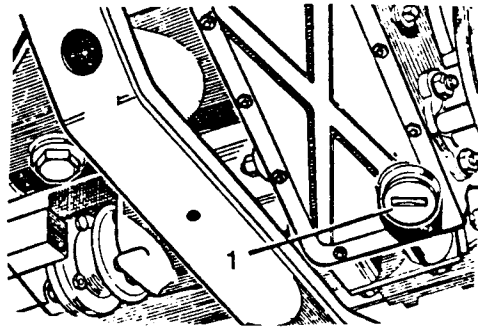

Fig H2.32
- (3) Refer to Fig H2.32. Remove the transfer box drain plug (1) and allow the oil to drain into the container.
- (4) Replace and tighten the drain plug using a new gasket.
- (5) Fill the transfer box with oil through the filler hole until the oil level is up to the bottom of the filler hole.
- (6) Allow excess oil to drain from the filler hole.
- (7) Replace and tighten the filler hole plug.
- (8) Wipe off excess oil from around the plugs.